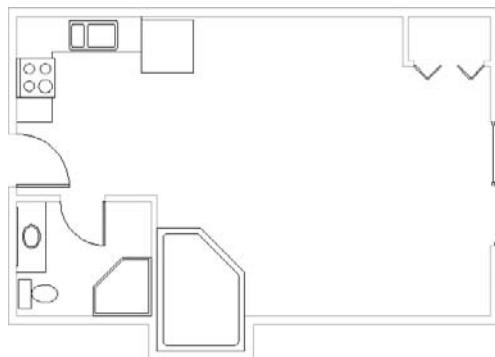

FIGURE 6.32 The floor plan without the deck shown
- Collapse or close the Layer Properties Manager or simply move it out of the way. Both the deck (A-DECK) and the stairs leading up to the deck (A-DECK-STRS) are invisible (see Figure 6.32).